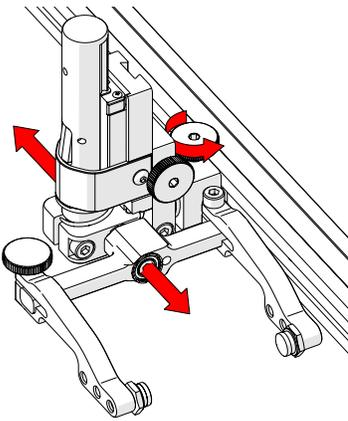

Fig. 43 - Adjust on frame bar
1. The probe holder adjustment knob allows the probe holder to be attached to a frame bar, as well as horizontal positioning on a frame bar (Fig. 43).